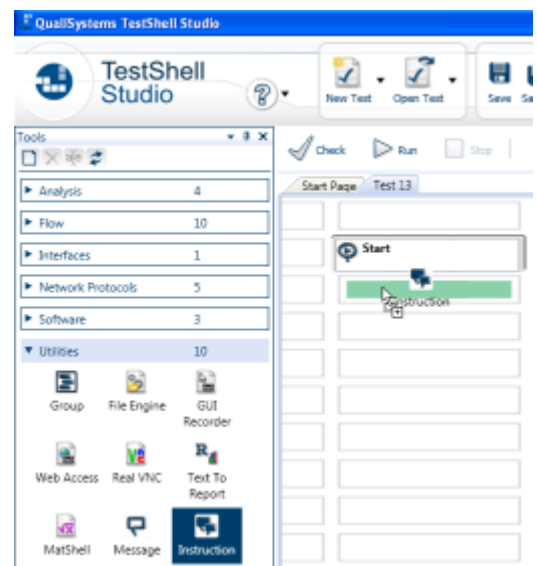

Figure 3 - adding an Instruction step
- b) From the Tools pane (right hand), select the utilities stencil, and drag the INSTRUCTION module just below the start step (see Figure 3)